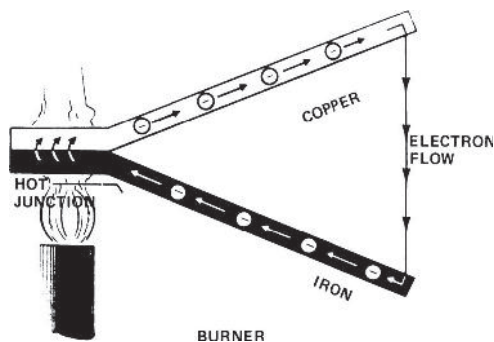

Fig. I-7 A thermocouple.
- **Heat.** Electricity is produced when heat is applied to the junction between two dissimilar metals. This junction is usually referred to as a thermocouple. Thermocouples are used to measure temperatures in industrial applications. This is especially true in checking the temperature of kilns for ceramic work (Fig. I-7).